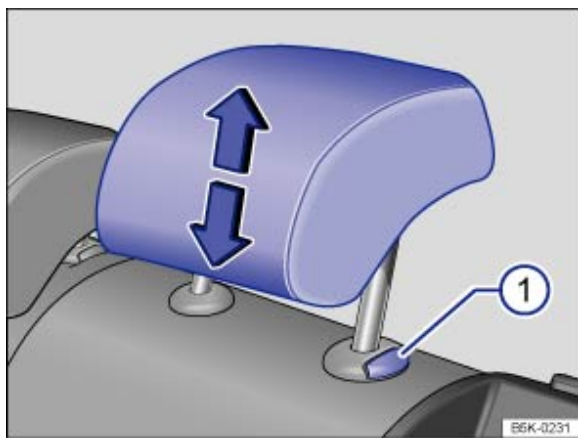

Fig. 48 Removing the rear head restraints
- Press the button → Fig. 48 ① while a second person pulls the head restraint out fully.
- Press and hold the button → Fig. 48 ① and push down the head restraint.